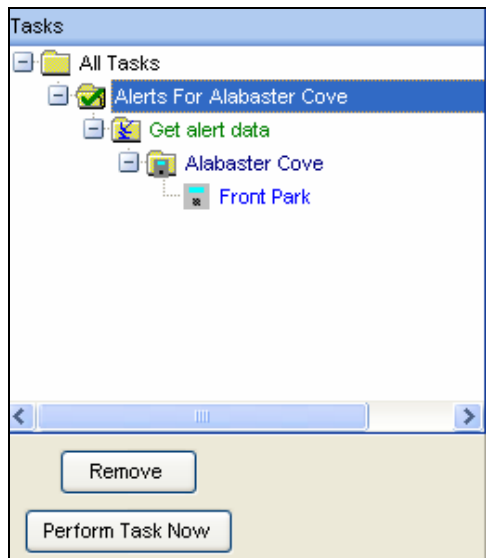

Figure 11.0.10
- You can check to see that all of the controllers that you wanted to have listed are in fact attached to this task by clicking on the “+” symbol to the left of the task function (Figure 11.0.10).